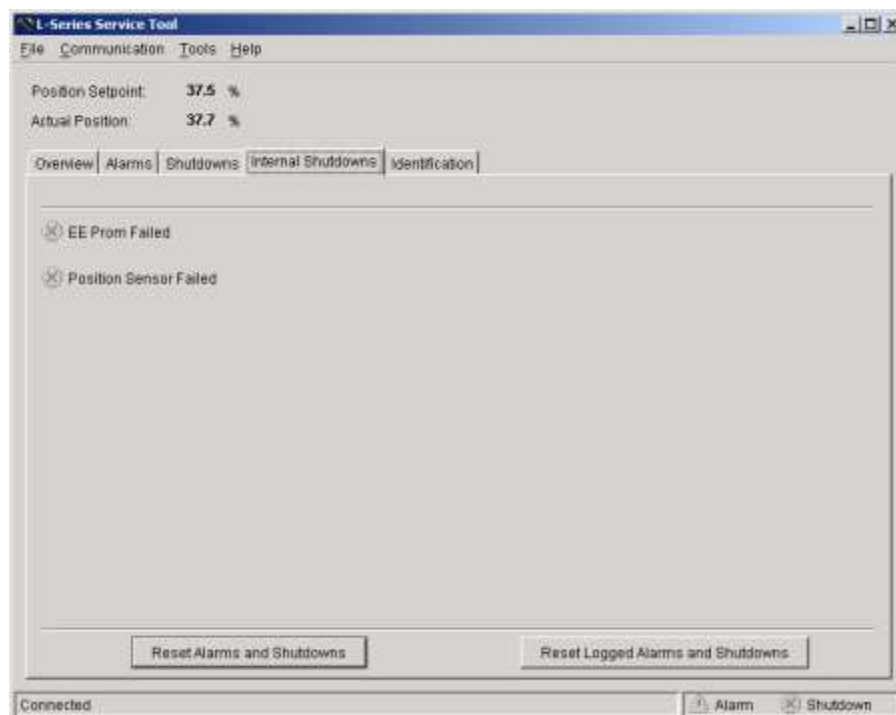

Figure 4-11. Service Tool—Internal Shutdowns Tab
- Internal Shutdowns (Figure 4-11)